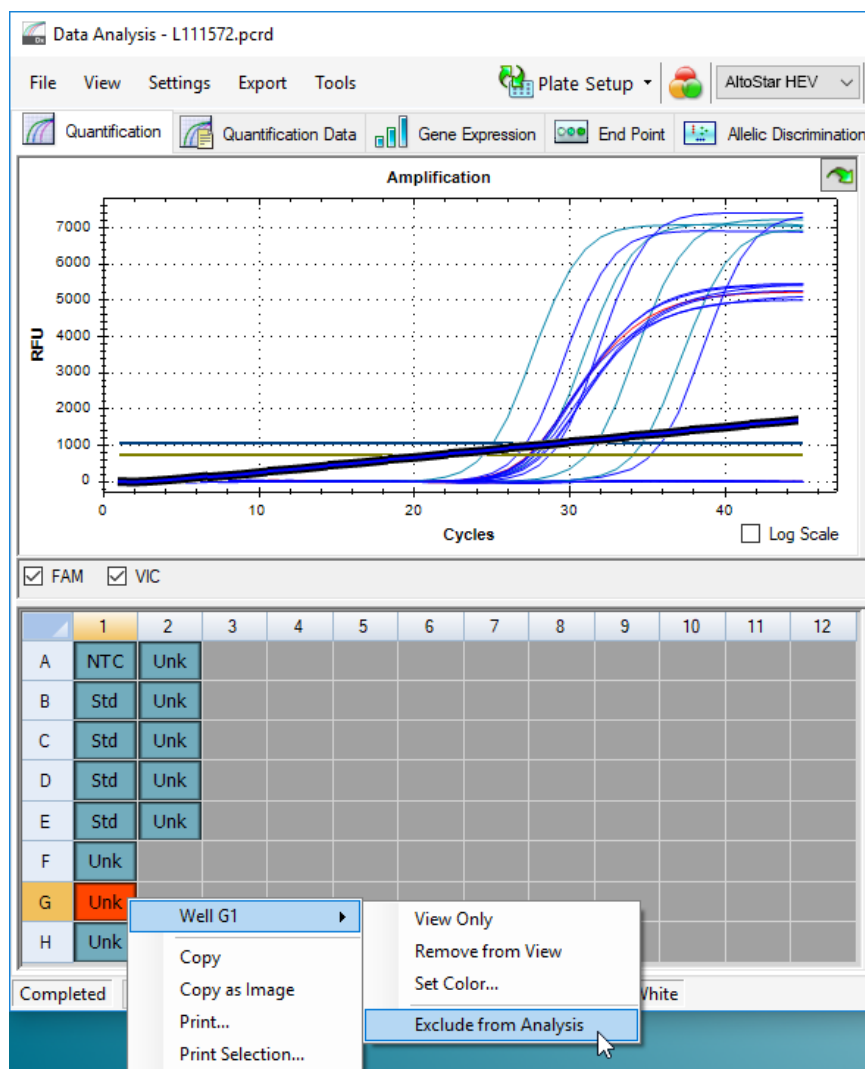

Figure 7: Data Analysis window: exclude well from analysis
- Click each affected well with the right mouse button and select **Well...** → **Exclude from Analysis** (see figure 7).